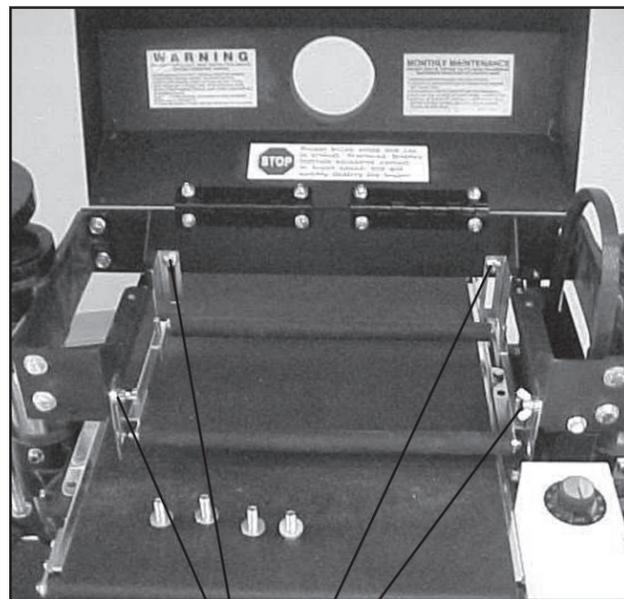

Fig. 23 Tension Roller Adj. Bolts
- Remove V-belt from drive pulley. If there is not enough clearance to remove V-belt loosen the four bolts securing the main motor to bracket. Note location of motor before sliding motor out of the way for ease of reassembly. Note the routing of the old V-belt: now remove the old V-belt and replace it with the new V-belt (Fig. 23 and 24).